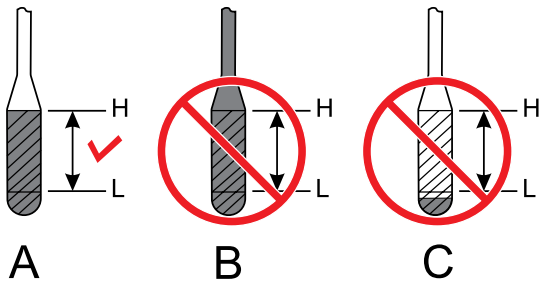

Figure 14. Engine Oil Level
3. Reinsert the dipstick, then remove the dipstick from its holder. Check the oil level shown on the dipstick (Figure 14).